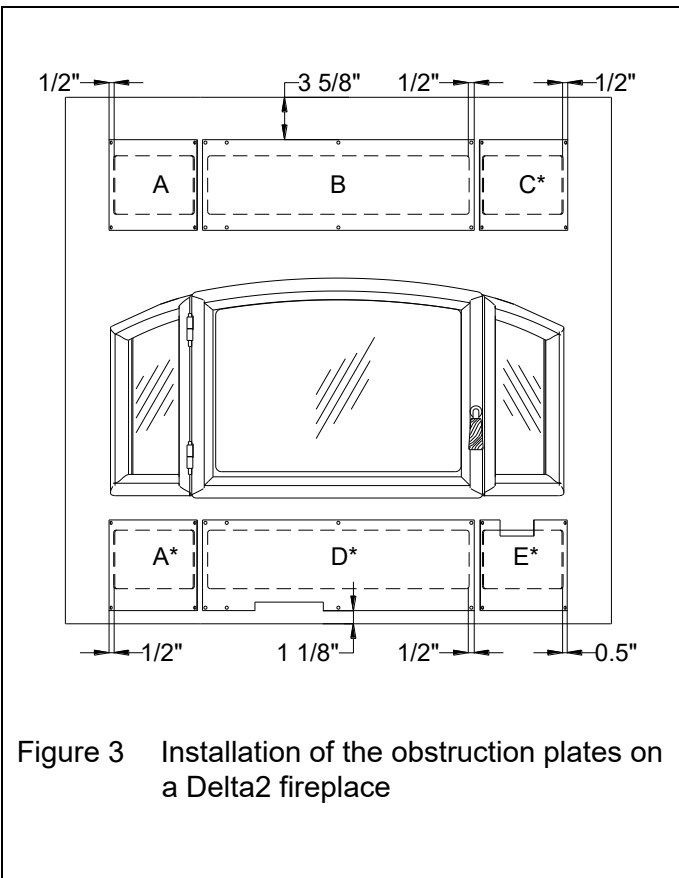
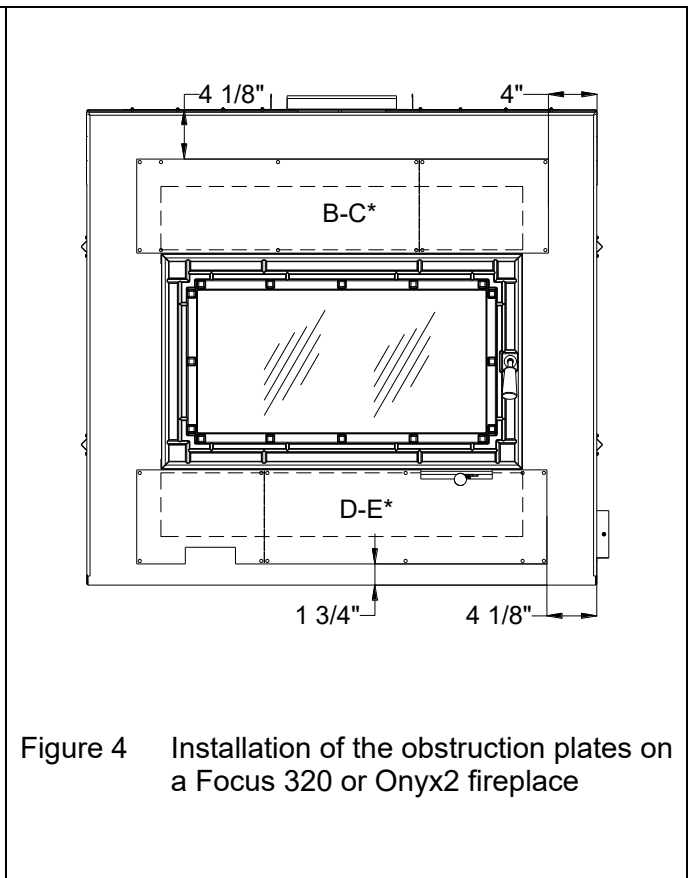
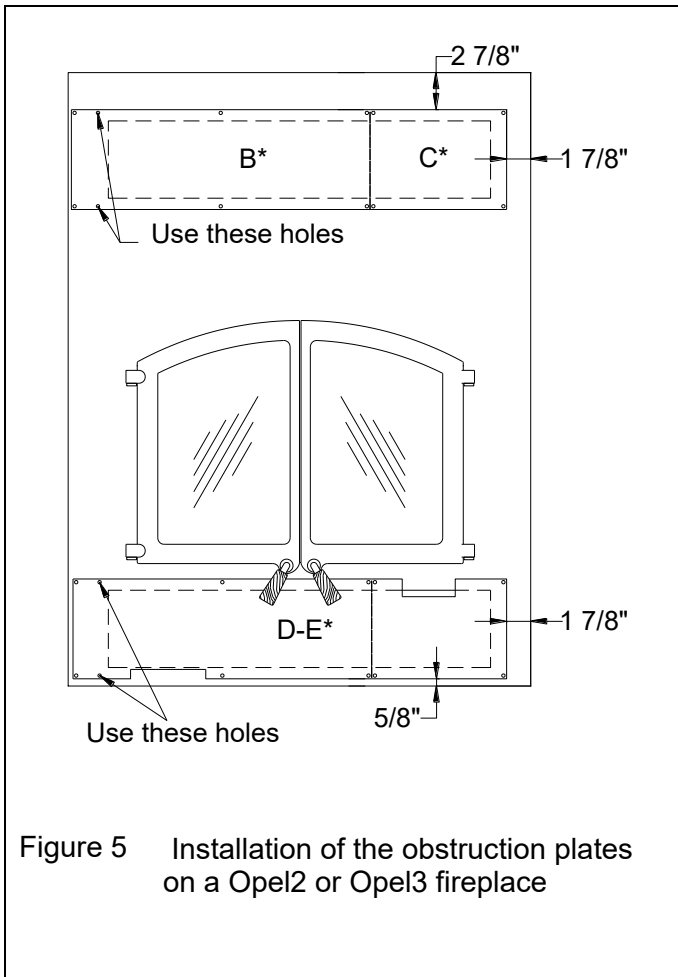

Figure 3 Installation of the obstruction plates on a Delta2 fireplace
Figure 4 Installation of the obstruction plates on a Focus 320 or Onyx2 fireplace
Figure 5 Installation of the obstruction plates on a Opel2 or Opel3 fireplace
- **For a Delta2 installation:** all plates are required as shown in Figure 3. You will need to break the two double plates into two pieces each (B-C and D-E). Simply bend them back and forth a couple of times and they will break apart. If you intend on using the Rock Retainer Kit (FO-KD2), please skip the installation of plates A, C, D and E since the rock retainer kit provides its own integrated plates for those louver openings.
- **For a Focus 320 and Onyx2 installation:** only the two double plates are necessary as shown in Figure 4. Do not break the double plates apart. Make sure to install the D-E double plate as shown in Figure 4, with the shallowest notch for the air control handle. If you intend on using the Rock Retainer Kit (FO-KN), please do not install any of the plates since the rock retainer kit provides its own integrated plates for both louver openings.
- **For an Opel2 and Opel3 installation:** only the two double plates are necessary as shown in Figure 5. You will need to break the double plate with no notches (B-C) in two pieces. Simply bend it back and forth a couple of times and it will break apart. Make sure to install the smallest plate (C) on the right side as shown in Figure 5 because it provides access to the air control behind the louver opening. Do not break the other double plate (D-E) apart. Make sure to install the D-E plate as shown in Figure 5, with the deepest notch for the air control handle. If you intend on using the Rock Retainer Kit (FO-KP3), please do not install any of the plates since the rock retainer kit provides its own integrated plates for both louver openings.
10. Using the self-tapping screws provided, install all necessary plates as shown in Figure 3 for a Delta2, in Figure 4 for a Focus 320 or Onyx2 and in Figure 5 for an Opel2 or Opel3 fireplace.